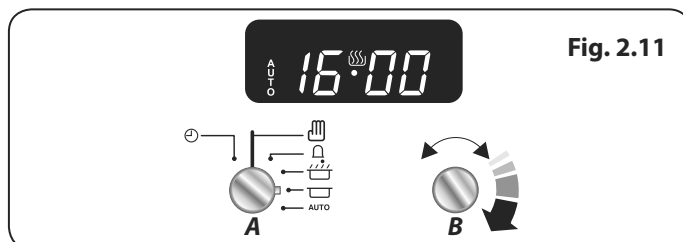

Fig. 2.11
3. Turn the **Adjusting (B)** knob to set the time of day you want the oven to stop cooking (**Fig. 2.11**).